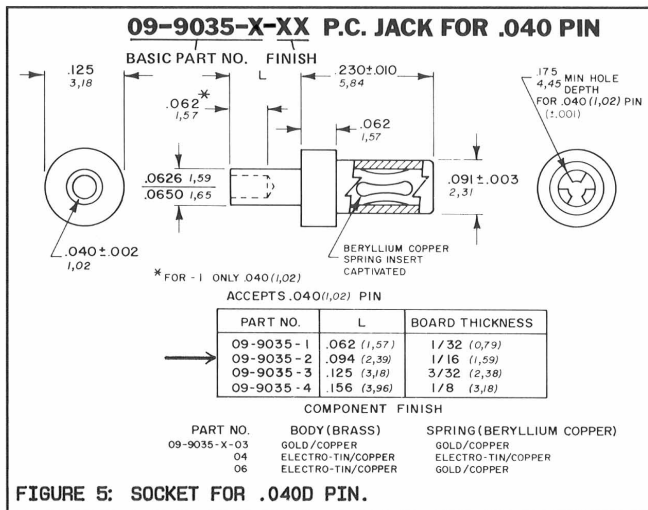

FIGURE 5: SOCKET FOR .040D PIN.
**Figure 5: Sockets.** Many types of sockets for 0.040" D pins are available from several manufacturers. The John Hardy Co. uses and stocks the socket shown in figure 5, reprinted from the Concord catalog. The same part is also available from Cambion, a very similar part (but with less retention force) from Mill-Max. It can be soldered in place, or swaged (tool required). Here are three sources: